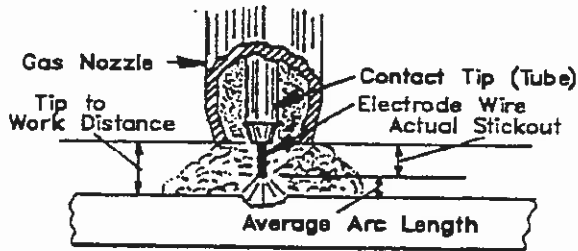

Figure 13, Electrode Stickout
Electrode Wire Stickout - See Figure 13
1. Stickout (distance between the end of the contact tube (tip) and the end of the electrode wire.) See Figure 13. Maintain about 3/8" (9.5 mm) stickout.
1. Maintain the tip-to-work distance (stickout) at 5/16 to 3/8 inch (8 to 9 mm) at all times. See Figure 13.